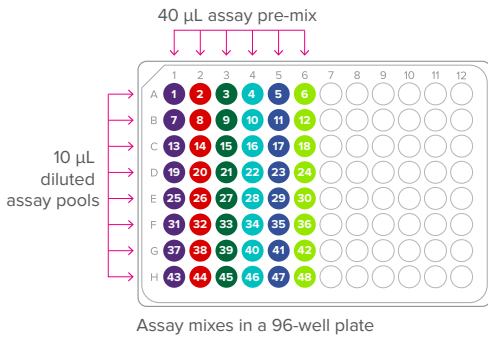

Figure 2. Layout of 10X assay mixes (per-well transfer volumes)
- 2 In a DNA-free hood, combine the components shown in Table 3 in the wells of a new PCR plate according to the layout shown in Figure 2.